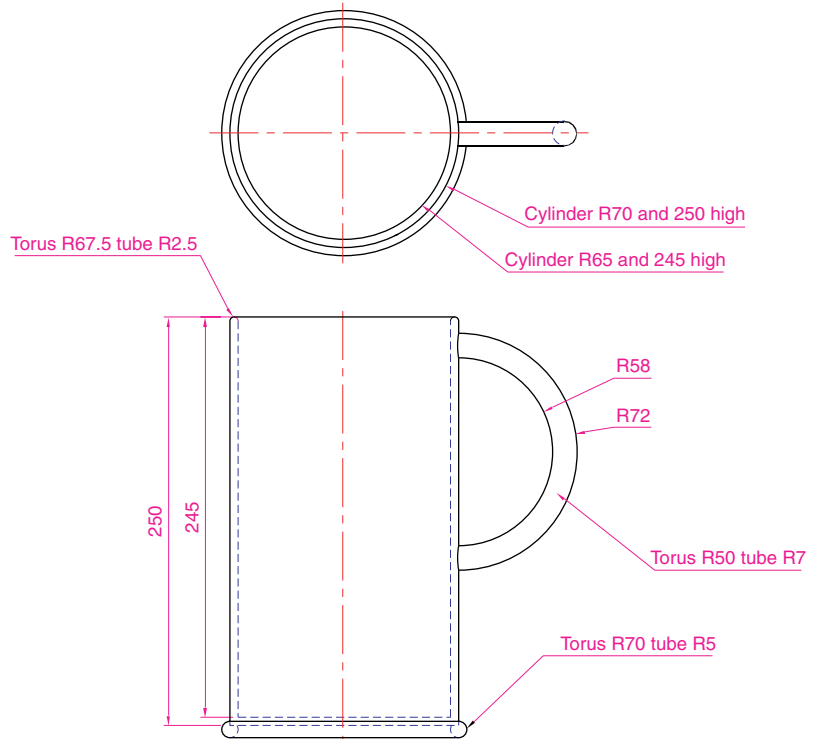

Fig. 15.48 Exercise 4
- Construct a solid of revolution of the jug shown in the orthographic projection (Fig. 15.48). Construct a handle from an extrusion of a circle along a semicircular path. Union the two parts. Place the 3D model in a suitable isometric view and render.